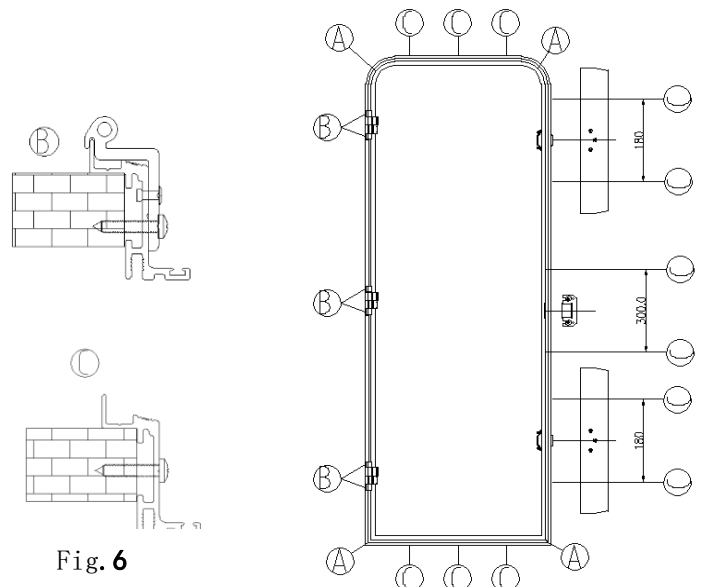

Fig. 6
6) Open inner door, discard packers and finish fixing door frame to caravan frame. as in Fig. 6 (B/C).